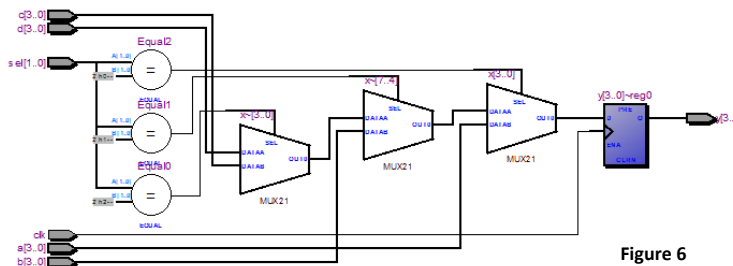

Figure 6
d) *RTL View:* This tool shows how the code was interpreted by the compiler (before optimization and fitting). Select **Tools > Netlist Viewers > RTL Viewer**, which exhibits the circuit of figure 6 (or equivalent). Because 2-input multiplexers are available in the device, a total of 3 units were used to implement the 4-input mux (the other three blocks at the input are for processing sel). Note also the 4-bit register (4 D-type flip-flops —DFFs) at the output.